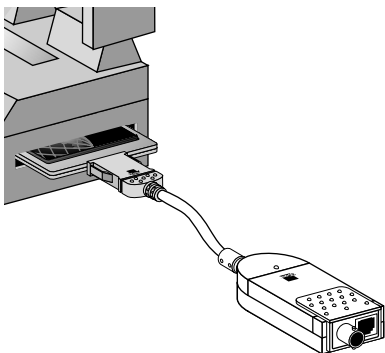

Figure 2-4 Connecting the 3C589C PC Card to the Network Using the 3C589C-COMBO Cable
- 1 Attach the supplied PC Card cable to the PC Card connector, as shown in Figure 2-4.